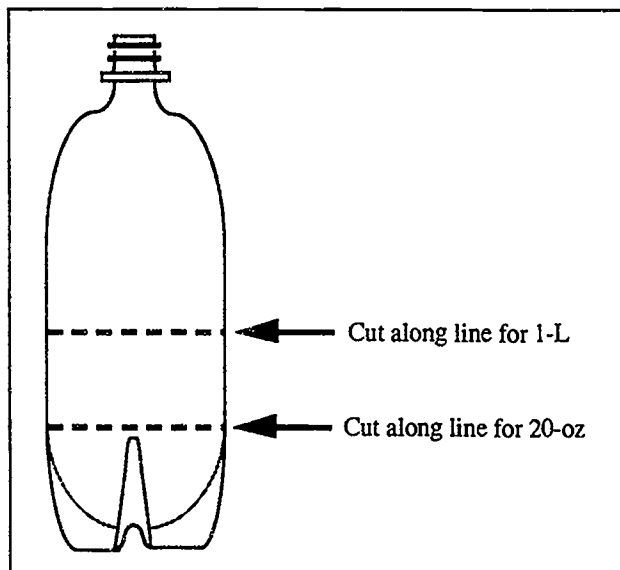

Fig. 1. Cutting the plastic soda bottle.
2. Using a utility knife, cut away the bottom half of a 1-L bottle or the bottom quarter of a 20-oz bottle (see Figure 1).